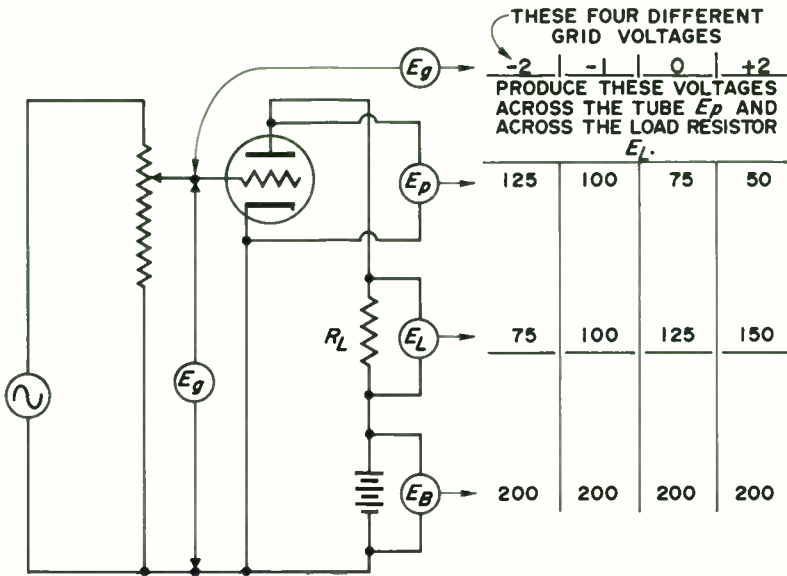

Figure 25 — The voltage drop  $E_p$  across the tube plus the voltage drop  $E_L$  across the load  $R_L$  always totals the voltage  $E_B$  of the plate battery.
**Polarity Reversal** When the signal voltage applied to the grid has its maximum positive instantaneous value the plate current is also maximum (Fig. 25). It can be seen that this maximum plate current flows through the plate load  $R_L$  producing a maximum  $i_p \times R_L$  drop across it. The lower end of  $R_L$  is connected to the positive terminal of  $E_B$  and is, therefore, held at a constant value of 200 volts. With a maximum  $i_p \times R_L$  drop across the load, the upper end of  $R_L$  is at a minimum instantaneous voltage. The plate of the tube is connected to this end of  $R_L$  and is at the same minimum instantaneous potential.